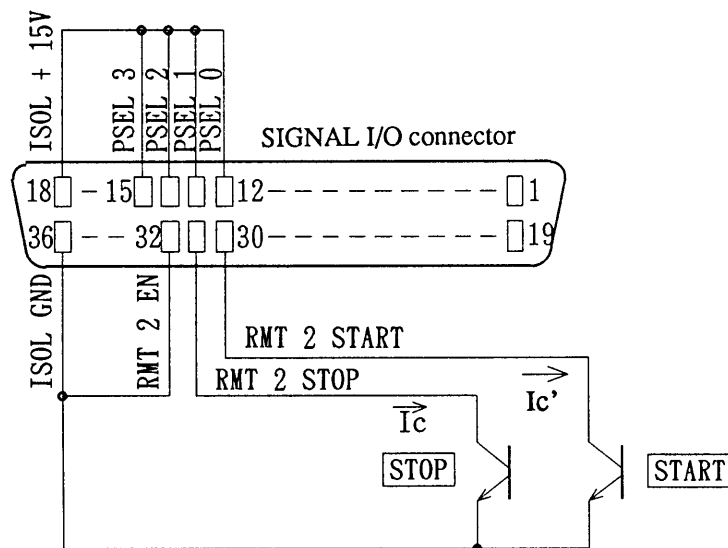

Figure 4.9
- ③ Then, the START switch on the front panel is disabled. The stop operation, however, remains effective and you can stop the W/I Tester either locally or remotely.
- ④ The mechanical switches shown in Figure 4.8 can be replaced with logical circuit elements (transistors, FETs, photocouplers, or other switching devices). An example is shown in Figure 4.9. The requirements of the input circuits of the W/I Tester are as follows.